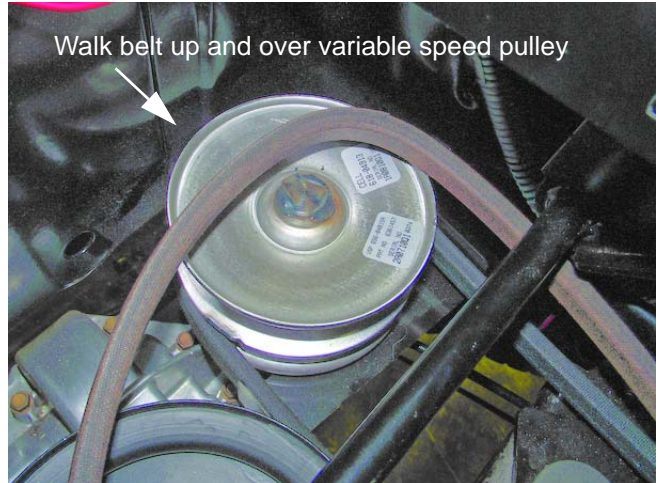

Figure 5.49
- 4d. The slack created will allow the upper belt to slip easily out of the top sheave of the variable speed pulley and off of the transmission input pulley. See Figure 5.49.